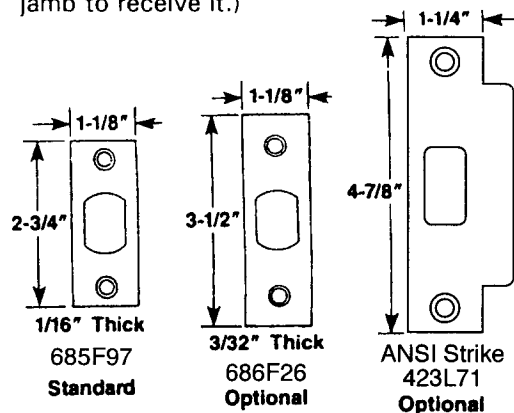

Figure 4
- For strike, drill 1" diameter hole x 1" deep at center point of strike. Drill pilot holes for attaching screws. Mortise jamb for strike. (See Figure 4 for strike thickness. If strike box is supplied, mortise jamb to receive it.)